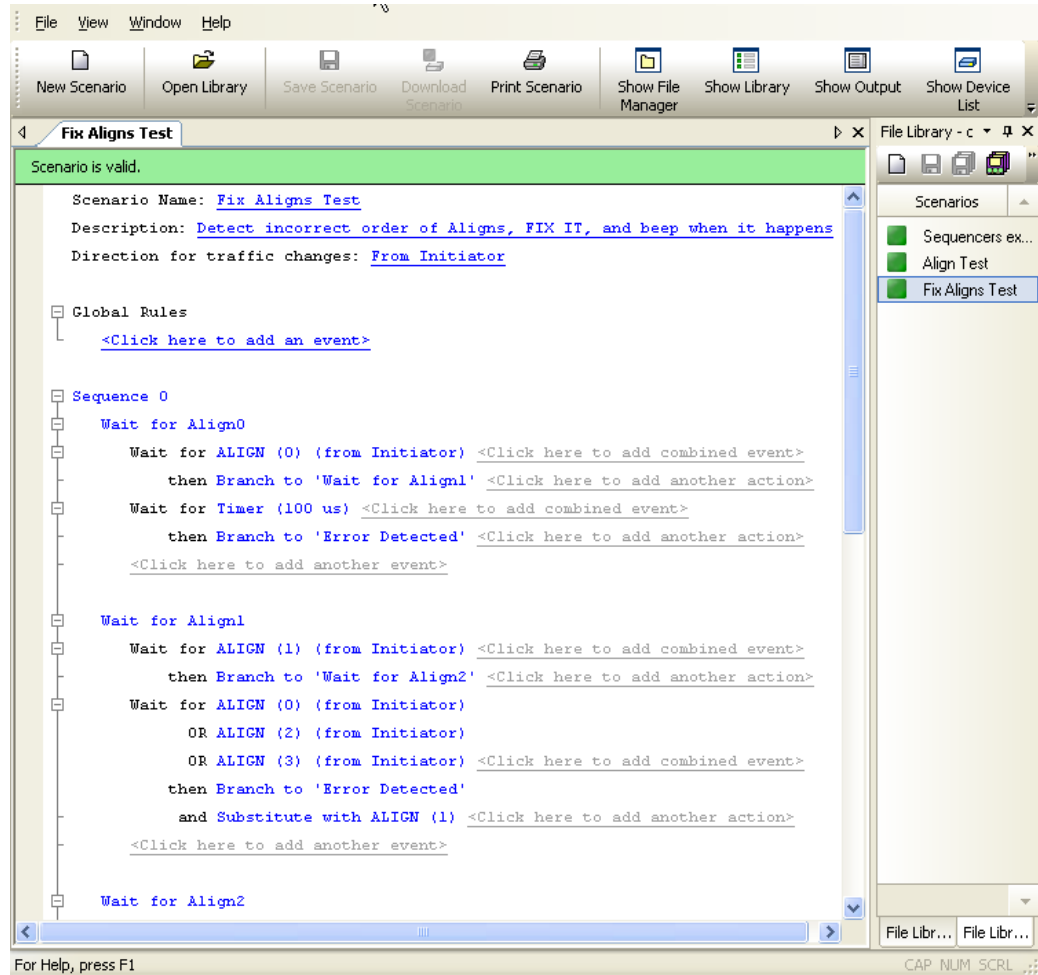
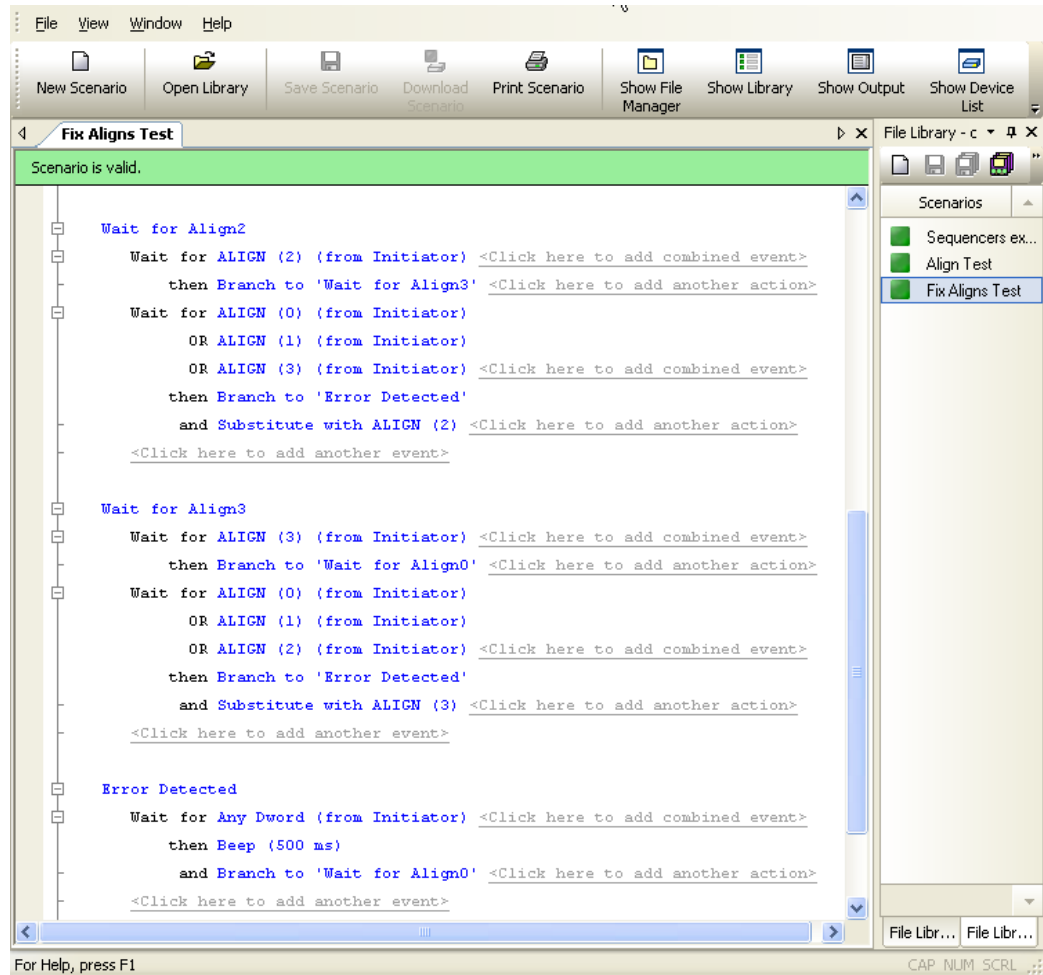

Figure 85 Example 9: Top Half of Scenario
Figure 86 Example 9: Bottom Half of Scenario
Step 3 In the File menu, select **Save Scenario** to save the scenario (Figure 85 and Figure 86).